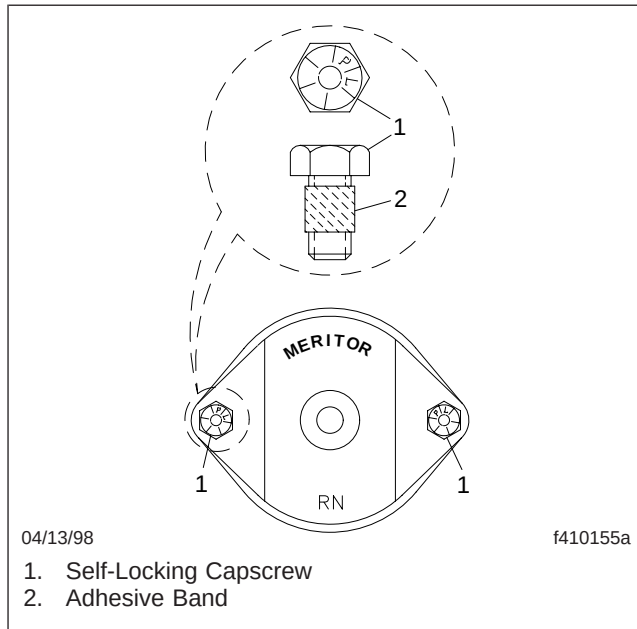

Fig. 10, Meritor U-Joint Fasteners for Full-Round Yokes
- 3.4 Install *new* bearing-cup-plate self-locking capscrews. See Fig. 10. Tighten the capscrews until all the parts are drawn down